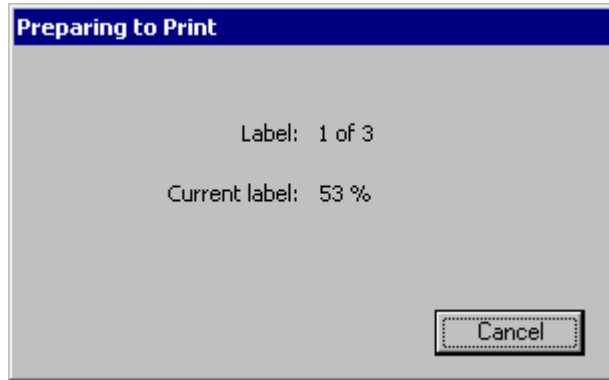

Figure 11-4. The Preparing to Print screen.
3. Choose **OK**. You'll see the **Preparing to Print** screen (Figure 11-4), which tracks the system's progress as it processes each of the copies.
2. Choose **OK** on the **Print** screen to start the print job. You'll see the **Preparing to Print** screen (Figure 11-4), which tracks the system's progress as it processes each of the labels in the set.
5. Choose **OK** on the **Print** screen to start the print job. You'll see the **Preparing to Print** screen (Figure 11-4), which tracks the system's progress as it processes the labels in the set you chose to print.
6. Choose **OK** on the **Print** screen. You'll see the **Preparing to Print** screen (Figure 11-4), where you can track the printer's progress while it processes and prints the labels and pages in the file group.
5. Choose **OK** on the **Print** screen to start the print job. You'll see the **Preparing to Print** screen (Figure 11-4), which tracks the system's progress as it processes and prints each file in the file group.